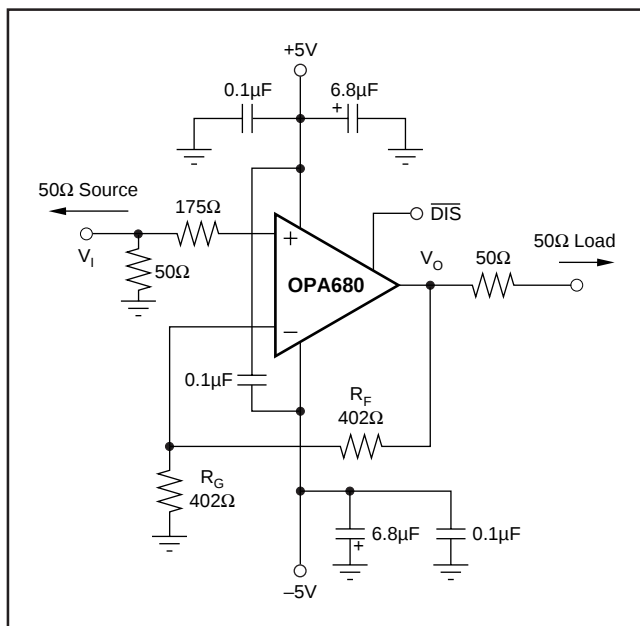
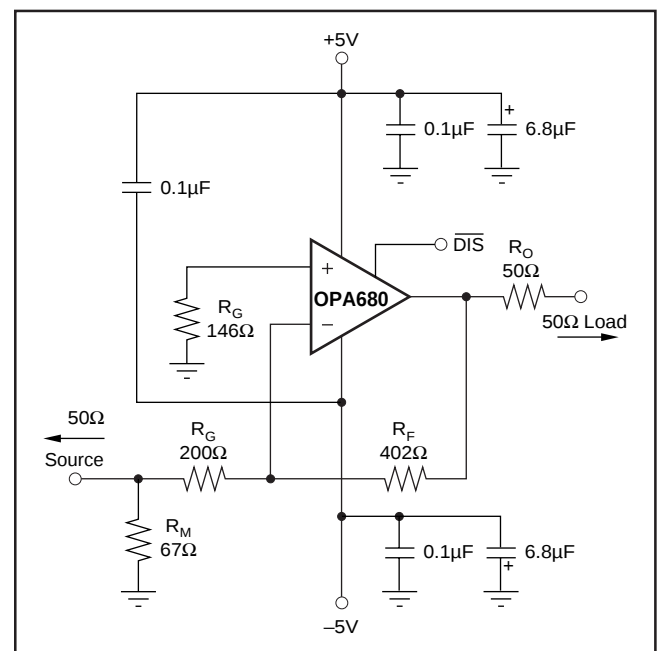

FIGURE 1. DC-Coupled, $G = +2$, Bipolar Supply, Specification and Test Circuit.
FIGURE 8. Gain of -2 Example Circuit.
At $T_A = +25^\circ\text{C}$, $G = +2$, $R_F = 402\Omega$, and $R_L = 100\Omega$, unless otherwise noted. See Figure 1.
At $T_A = +25^\circ C$, $G = +2$, $R_F = 402\Omega$, and $R_L = 100\Omega$, unless otherwise noted. See Figure 1.
Figure 1 shows the DC-coupled, gain of +2, dual power supply circuit configuration used as the basis of the $\pm 5\text{V}$ Specifications and Typical Performance Curves. For test purposes, the input impedance is set to 50Ω with a resistor to ground and the output impedance is set to 50Ω with a series output resistor. Voltage swings reported in the specifications are taken directly at the input and output pins, while output powers (dBm) are at the matched 50Ω load. For the circuit of Figure 1, the total effective load will be $100\Omega \parallel 804\Omega$. The disable control line is typically left open to guarantee normal amplifier operation. Two optional components are included in Figure 1. An additional resistor (175Ω) is included in series with the non-inverting input. Combined with the 25Ω DC source resistance looking back towards the signal generator, this gives an input bias current cancelling resistance that
A good rule of thumb is to target the parallel combination of R_F and R_G (Figure 1) to be less than approximately 300Ω . The combined impedance $R_F \parallel R_G$ interacts with the inverting input capacitance, placing an additional pole in the feedback network and thus, a zero in the forward response. Assuming a $2pF$ total parasitic on the inverting node, holding $R_F \parallel R_G < 300\Omega$ will keep this pole above $250MHz$. By itself, this constraint implies that the feedback resistor R_F can increase to several $k\Omega$ at high gains. This is acceptable as long as the pole formed by R_F and any parasitic capacitance appearing in parallel is kept out of the frequency range of interest.
Voltage feedback op amps exhibit decreasing closed-loop bandwidth as the signal gain is increased. In theory, this relationship is described by the Gain Bandwidth Product (GBP) shown in the specifications. Ideally, dividing GBP by the non-inverting signal gain (also called the Noise Gain, or NG) will predict the closed-loop bandwidth. In practice, this only holds true when the phase margin approaches 90° , as it does in high gain configurations. At low gains (increased feedback factors), most amplifiers will exhibit a more complex response with lower phase margin. The OPA680 is compensated to give a slightly peaked response in a non-inverting gain of 2 (Figure 1). This results in a typical gain of +2 bandwidth of $220MHz$, far exceeding that predicted by dividing the $300MHz$ GBP by 2. Increasing the gain will cause the phase margin to approach 90° and the bandwidth to more closely approach the predicted value of (GBP/NG) . At a gain of +10, the $30MHz$ bandwidth shown in the Typical Specifications agrees with that predicted using the simple formula and the typical GBP of $300MHz$.
Frequency response in a gain of +2 may be modified to achieve exceptional flatness simply by increasing the noise gain to 2.5. One way to do this, without affecting the +2 signal gain, is to add an 804Ω resistor across the two inputs in the circuit of Figure 1. A similar technique may be used
Since the OPA680 is a general purpose, wideband voltage feedback op amp, all of the familiar op amp application circuits are available to the designer. Inverting operation is one of the more common requirements and offers several performance benefits. Figure 8 shows a typical inverting configuration where the I/O impedances and signal gain from Figure 1 are retained in an inverting circuit configuration.
amplifier output. For an inverting gain of 2, setting R_G to 50Ω for input matching eliminates the need for R_M but requires a 100Ω feedback resistor. This has the interesting advantage that the noise gain becomes equal to 2 for a 50Ω source impedance—the same as the non-inverting circuits considered above. However, the amplifier output will now see the 100Ω feedback resistor in parallel with the external load. In general, the feedback resistor should be limited to the 200Ω to $1.5k\Omega$ range. In this case, it is preferable to increase both the R_F and R_G values as shown in Figure 8, and then achieve the input matching impedance with a third resistor (R_M) to ground. The total input impedance becomes the parallel combination of R_G and R_M .
The second major consideration, touched on in the previous paragraph, is that the signal source impedance becomes part of the noise gain equation and hence influences the bandwidth. For the example in Figure 8, the R_M value combines in parallel with the external 50Ω source impedance, yielding an effective driving impedance of $50\Omega \parallel 67\Omega = 28.6\Omega$. This impedance is added in series with R_G for calculating the noise gain (NG). The resultant NG is 2.8 for Figure 8, as opposed to only 2 if R_M could be eliminated as discussed above. The bandwidth will therefore be slightly lower for the gain of -2 circuit of Figure 8 than for the gain of $+2$ circuit of Figure 1.
The third important consideration in inverting amplifier design is setting the bias current cancellation resistor on the non-inverting input (R_B). If this resistor is set equal to the total DC resistance looking out of the inverting node, the output DC error, due to the input bias currents, will be reduced to (Input Offset Current) $\cdot R_F$. If the 50Ω source impedance is DC-coupled in Figure 8, the total resistance to ground on the inverting input will be 228Ω . Combining this in parallel with the feedback resistor gives the $R_B = 146\Omega$ used in this example. To reduce the additional high frequency noise introduced by this resistor, it is sometimes bypassed with a capacitor. As long as $R_B < 350\Omega$, the capacitor is not required since the total noise contribution of all other terms will be less than that of the op amp's input noise voltage. As a minimum, the OPA680 requires an R_B value of 50Ω to damp out parasitic-induced peaking—a direct short to ground on the non-inverting input runs the risk of a very high frequency instability in the input stage.
The OPA680 provides good distortion performance into a 100Ω load on $\pm 5V$ supplies. Relative to alternative solutions, it provides exceptional performance into lighter loads and/or operating on a single +5V supply. Generally, until the fundamental signal reaches very high frequency or power levels, the 2nd harmonic will dominate the distortion with a negligible 3rd harmonic component. Focusing then on the 2nd harmonic, increasing the load impedance improves distortion directly. Remember that the total load includes the feedback network; in the non-inverting configuration (Figure 1) this is sum of $R_F + R_G$, while in the inverting configuration, it is just R_F . Also, providing an additional supply decoupling capacitor (0.1μF) between the supply pins (for bipolar operation) improves the 2nd-order distortion slightly (3dB to 6dB).
Evaluating these two equations for the OPA680 circuit and component values shown in Figure 1 will give a total output spot noise voltage of $11\text{nV}/\sqrt{\text{Hz}}$ and a total equivalent input spot noise voltage of $5.5\text{nV}/\sqrt{\text{Hz}}$. This is including the noise added by the bias current cancellation resistor (175Ω) on the non-inverting input. This total input-referred spot noise voltage is only slightly higher than the $4.8\text{nV}/\sqrt{\text{Hz}}$ specification for the op amp voltage noise alone. This will be the case
as long as the impedances appearing at each op amp input are limited to the previously recommended maximum value of 300Ω . Keeping both $(R_F \parallel R_G)$ and the non-inverting input source impedance less than 300Ω will satisfy both noise and frequency response flatness considerations. Since the resistor-induced noise is relatively negligible, additional capacitive decoupling across the bias current cancellation resistor (R_B) for the inverting op amp configuration of Figure 8 is not required.
The balanced input stage of a wideband voltage feedback op amp allows good output DC accuracy in a wide variety of applications. The power supply current trim for the OPA680 gives even tighter control than comparable products. Although the high speed input stage does require relatively high input bias current (typically $14\mu\text{A}$ out of each input terminal), the close matching between them may be used to reduce the output DC error caused by this current. The total output offset voltage may be considerably reduced by matching the DC source resistances appearing at the two inputs. This reduces the output DC error due to the input bias currents to the offset current times the feedback resistor. Evaluating the configuration of Figure 1, using worst-case $+25^\circ\text{C}$ input offset voltage and current specifications, gives a worst-case output offset voltage equal to: $-(NG = \text{non-inverting signal gain})$